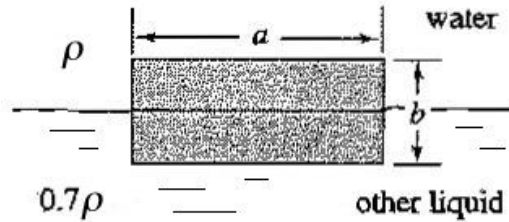

Figure P2.83
2.83 A rectangular body of length a and width b has a specific gravity of 0.8. It floats at the interface between water and another liquid with a specific gravity of 0.7, as shown in Figure P2.83. If $a > b$, find the depth to which the body is immersed.